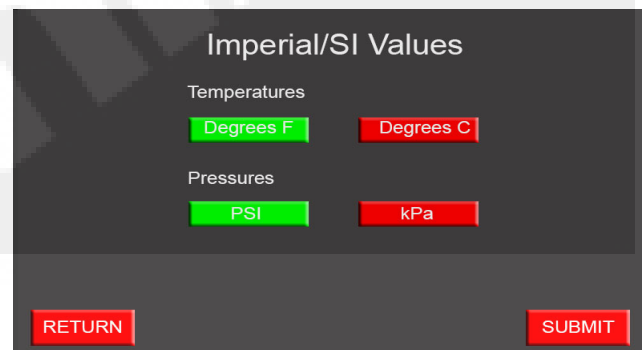

Figure 4-5 Parameter Units Screen (Typical)
The Imperial/SI Values Screen, shown in Figure 4-5, allows the operator to select Imperial or *Système Internationale* (SI) (also known as metric) units of measurement. The default units of measure are Imperial units of degrees in Fahrenheit and pounds per square inch (PSI), but the user may elect degrees in Celsius or kilo Pascal (kPa).